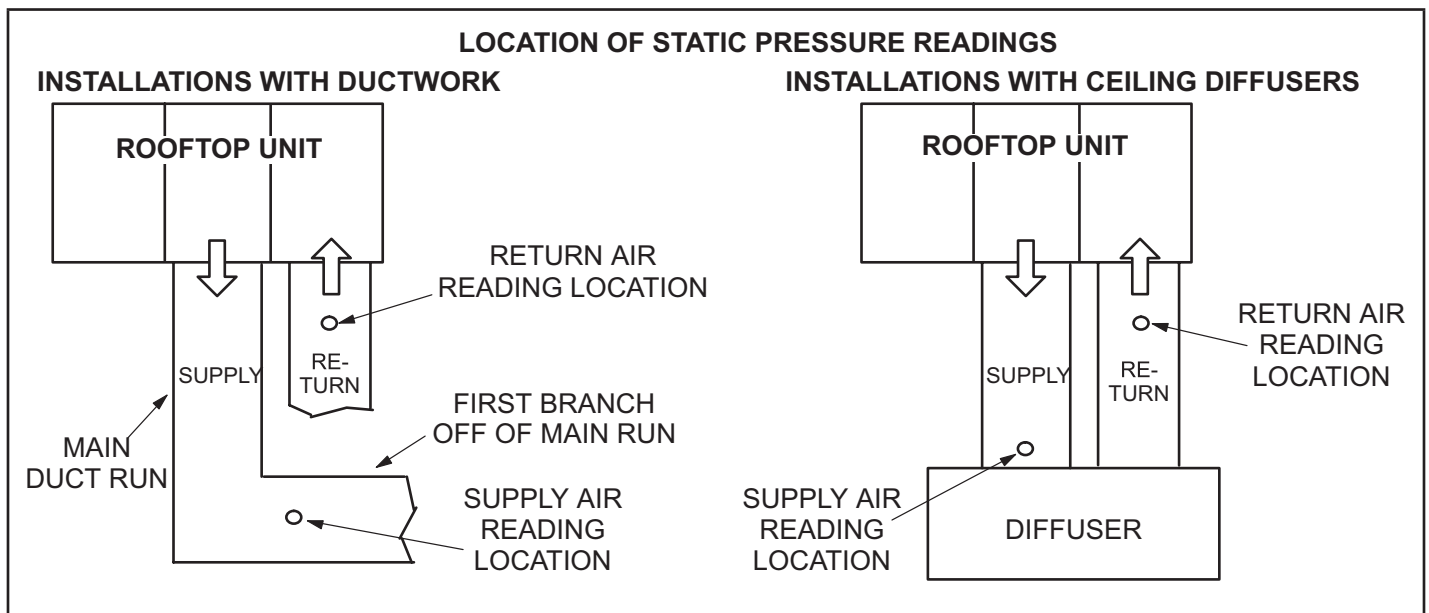

FIGURE 8
- 2 - With all access panels in place, measure static pressure external to unit (from supply to return). Blower performance data is based on static pressure readings taken in locations shown in figure 8.